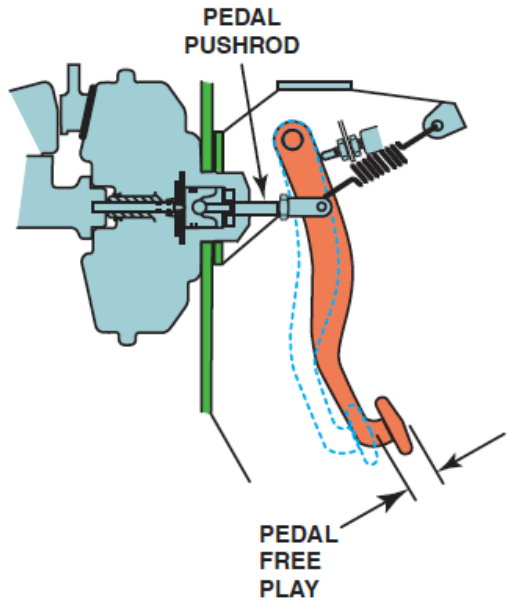

Figure 36. Brake pedal free play is the distance between the brake pedal fully released and the position of the brake pedal when braking resistance is felt.
- The pedal should have a small amount of freeplay. Figure 36.